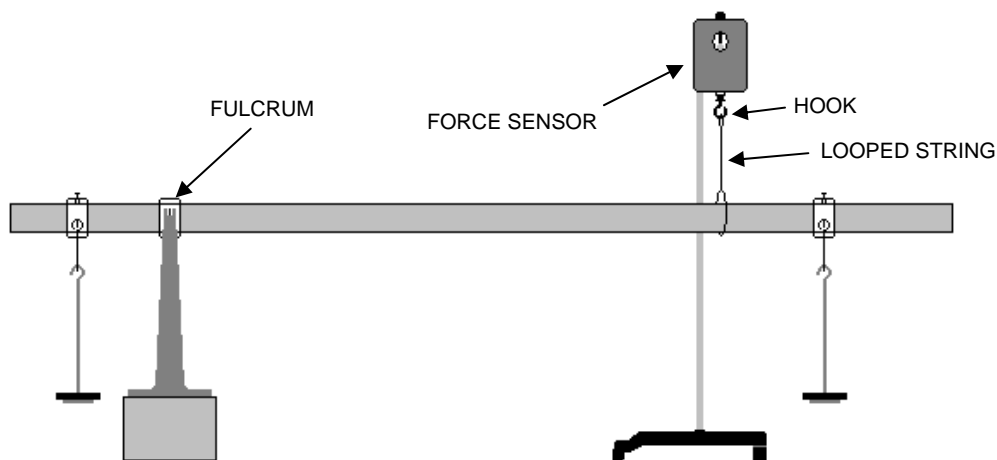

FIGURE 8 - Lab Setup for Tension
C) On the table there is a piece of string with one end tied in a big loop and the other in a small loop. Slide the big loop around the ruler until it is at 70 cm. Have the small loop hang on the hook on the Force Sensor which is hanging from a stand. Adjust the height of the Force Sensor until the meter stick is horizontal. See **Figure 8**.